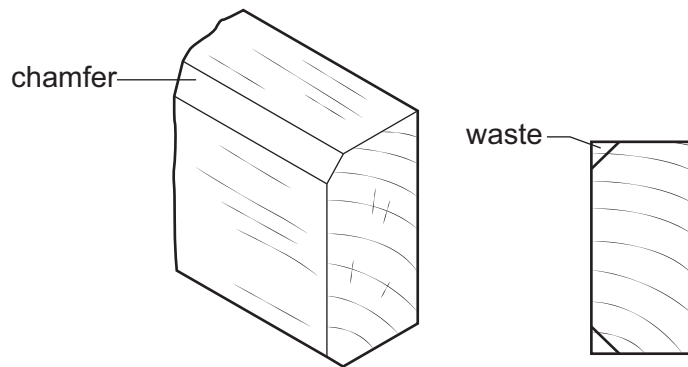

Fig. 11.4
- (f) Fig. 11.4 shows one of the rails with the edges planed to produce a chamfer.